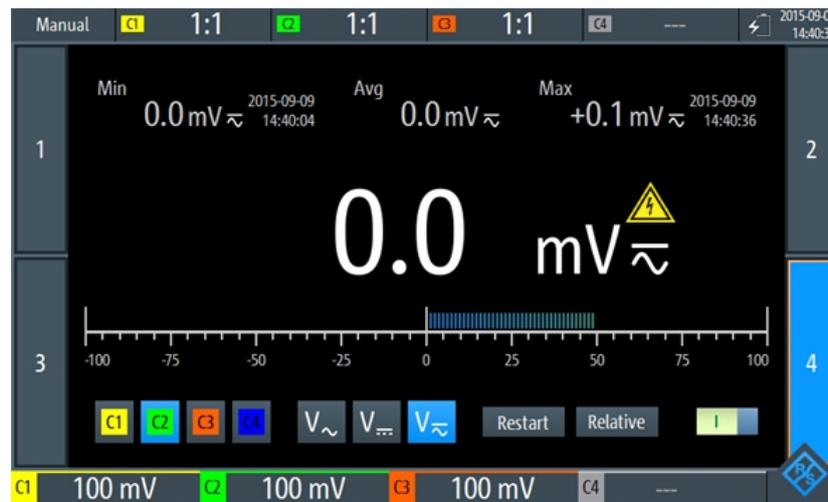

Figure 5-3: One-voltmeter-view
- Tap the highlighted number of the opened voltmeter as shown in Figure 5-3.
3. Select the channel to be measured (no. 8 in Figure 5-3).